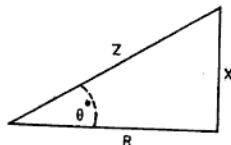

Fig. 11.9: Impedance triangle
**Impedance Triangle** The impedance, resistance and reactance can also be denoted by the sides of a right angled triangle, whose two sides enclose an angle  $\theta^\circ$ . With  $Z$  as the hypotenuse  $R$  by the adjacent side and the reactance  $X$  by the side opposite to the angle  $\theta$ , as shown in Fig. 11.9.